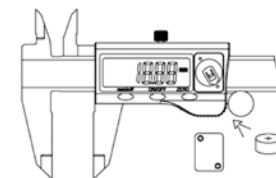

Fig. 7
2. Remove the back cover, then remove the battery (Fig. 7).